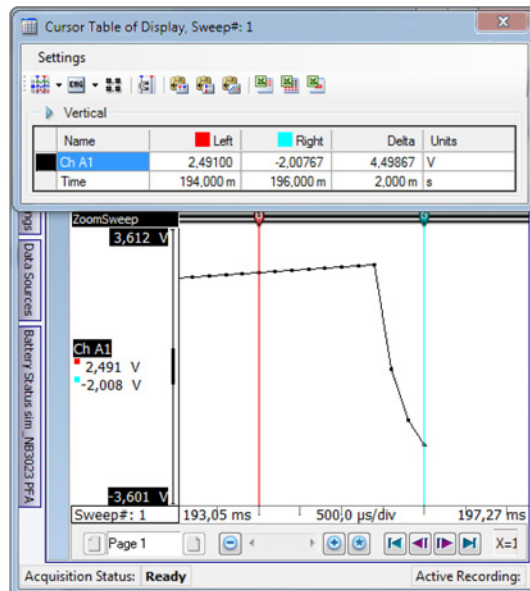

Figure F.11: Sample recording 3
- Next sample recorded (sample of blue cursors, see Figure F.11)